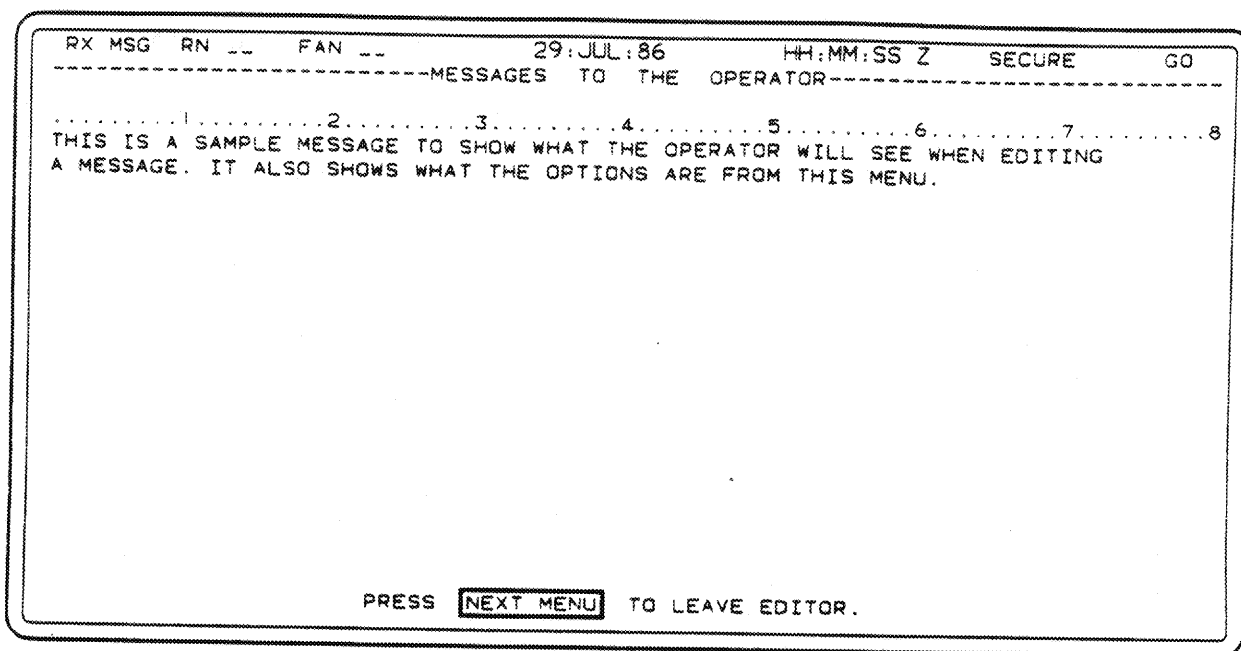

Figure 5-3. RN EDITOR Screen
3. Select a saved message for recall from the CPU. The recalled message appears on the RECALLED MESSAGE menu with an option for editing. Select the EDIT option. The first page of the recalled message is displayed on the RN Editor screen (Figure 5-3).